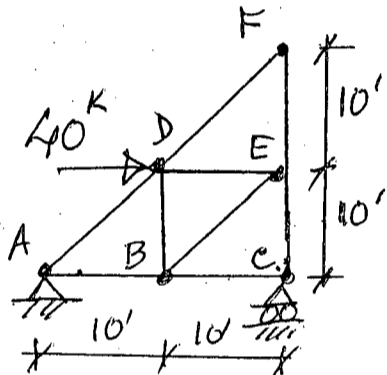

Fig. 8
9. Calculate horizontal deflection at joint 'F' of the truss shown in Fig. 8 Given: Cross-sectional area of horizontal members =  $10 \text{ in}^2$  and cross-sectional area of other members =  $5 \text{ in}^2$ . Assume,  $E = 30,000 \text{ ksi}$ . (28)